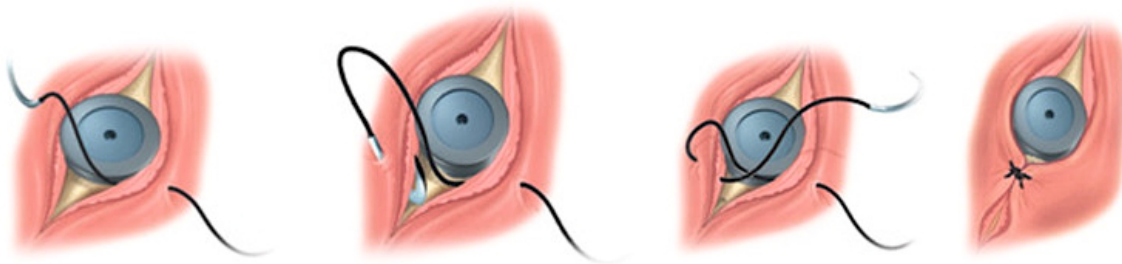

Figure 7 – 8 Suture Technique (4)
This is a modified version of horizontal mattress suture. While closing both sides of the soft tissue, 8 sutures help to preserve the position of the clot (Figure 7) (4).